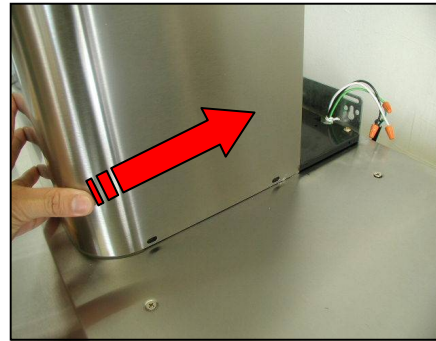

Figure 19
6. Slide the inner duct cover up 2 inches before sliding the entire duct cover onto the hood. Refer to Figure 19.